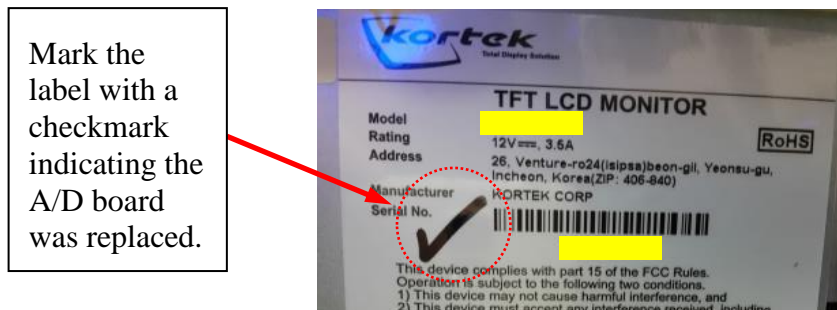

Figure 10
- 8) Use the black Sharpie marker to mark the manufacturer label with a check mark next to the serial number to indicate the defective A/D board has been replaced. See Figure 10